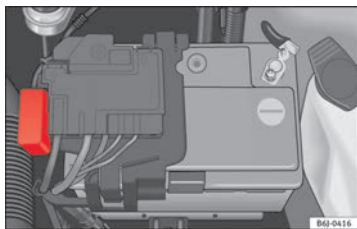

Fig. 154 In the engine compartment: fuse box cover
- Press the locking tabs to release the fuse box cover  $\Rightarrow$  Fig. 154.